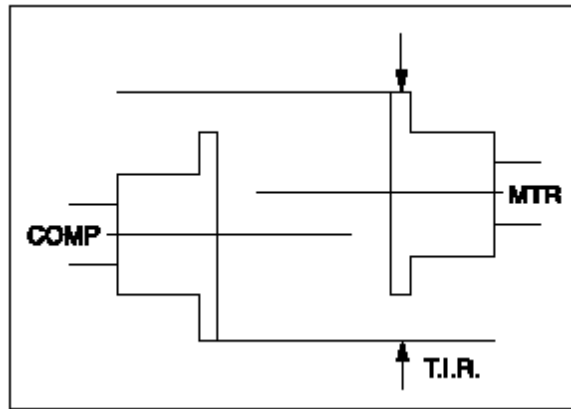
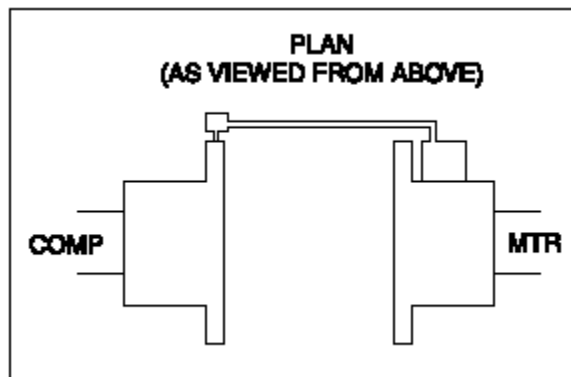

Figure 6
Figure 7
6. To check parallel alignment, as shown in Fig. 6, reposition dial indicator so the stem is in contact with the rim of the compressor hub, as shown in Fig. 7.
Set indicator at zero and rotate both coupling hubs together 180° (9 o'clock position), as shown in Fig. 7.